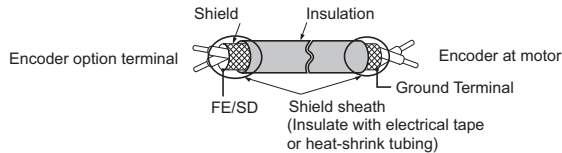

Figure 6 Prepare Ends of Shielded Cable
4. Prepare and connect the wire ends as shown in *Figure 6* and *Figure 7*. Refer to *Wire Gauges and Tightening Torques on page 38* to confirm that the proper tightening torque is applied to each terminal. Take particular precaution to ensure that each wire is properly connected and wire insulation is not accidentally pinched into electrical terminals.